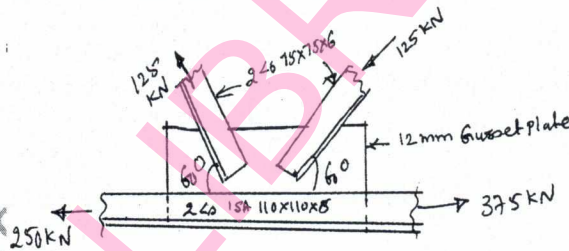

Fig. Q2(c)
c. Determine the number of bolts required to connect two angles ISA 75 × 75 × 6 to 12 mm thick gusset plate of M20 – G4.6 property class bolts are used to connect system in Fig. Q2(c). Assume $f_y = 250$ MPa, $f_u = 410$ MPa. (08 Marks)